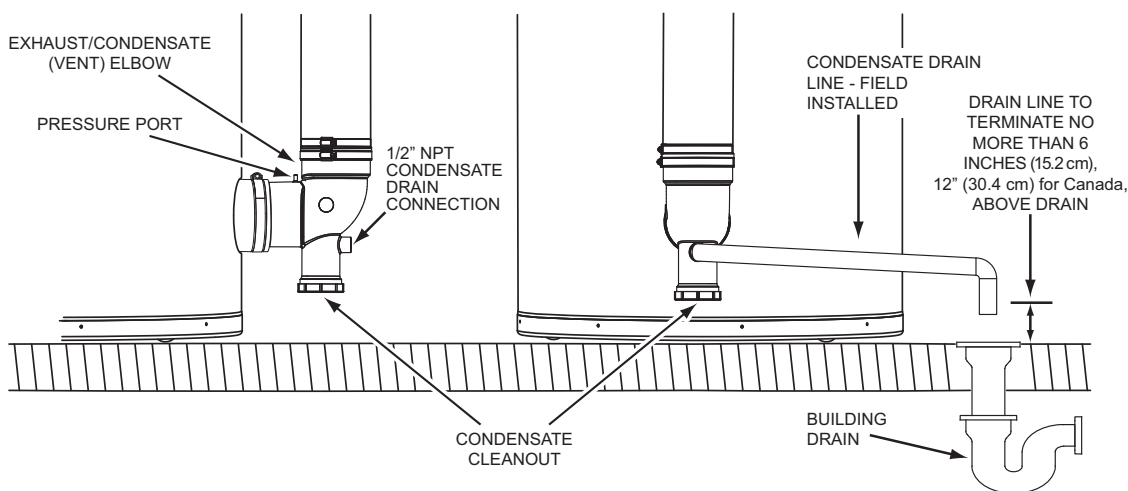

Figure 53. Condensate Drain Installation
2. Install a 1/2 inch PVC condensate drain line between condensate drain connection on the Exhaust/Condensate Elbow and a suitable building drain. The condensate line must slope to an open drain, see *Figure 53*.
3. Terminate the condensate drain piping with an elbow above the drain. Ensure that any discharge will exit the condensate drain line no more than 6 inches (15.2 cm) above a suitable building drain, or external to the building, see *Figure 53*.
4. Ensure the condensate drain line is not elevated above the condensate drain connection on the Exhaust/Condensate Elbow, see *Figure 53*.